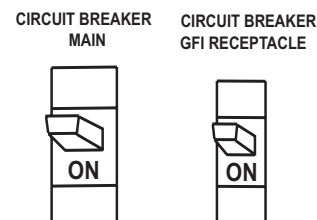

Figure 53. Main and GFCI Circuit Breakers
15. If there are no abnormal problems shown on the MPEC LED display, turn both the MAIN and GFCI circuit breakers to their ON position (Figure 53).